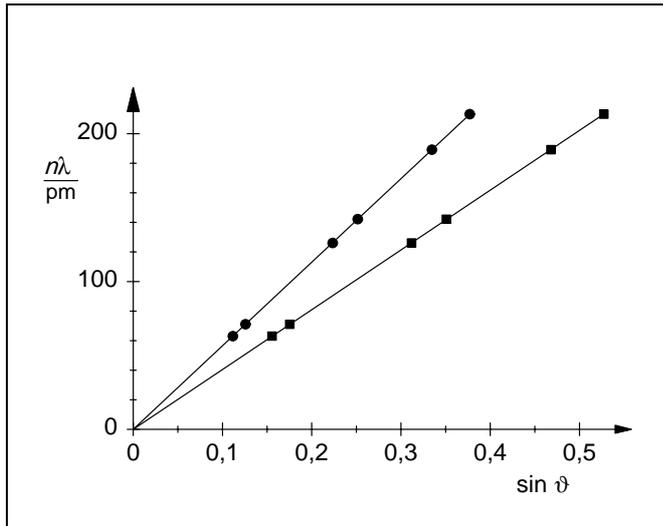

Fig. 6 Value pairs as a function of  $\sin \vartheta$
- For each glancing angle  $\vartheta$ , calculate the values  $\sin \vartheta$  and plot these value pairs in a diagram (see Fig. 6).